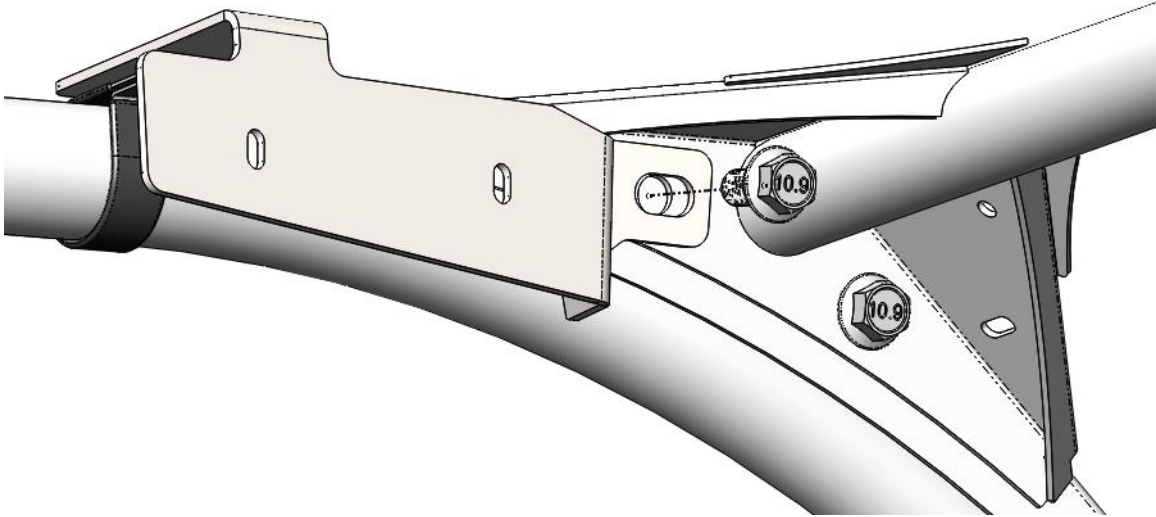

Figure 4: Mounting location of the *Audio Mini* bracket.
3. Place the driver's side bracket on the inside of the cross member. Use the factory bolt, and loosely tighten it until the bracket is fully secured in the following steps. Verify correct orientation of the mounting bracket. See Figure 4. **Note: Driver side bracket shown. (Passenger side similar)**